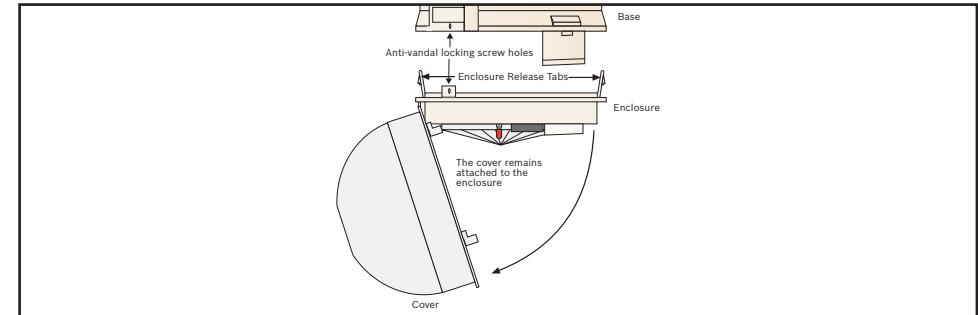

Figure 2.1: Opening cover
1. Remove the base from the enclosure by pressing the two enclosure release tabs inward while lifting the enclosure away from the base. Refer to *Figure 2.1*.
2. Open the cover by turning counterclockwise. One side of the cover will remain attached to the base of the detector. Do not attempt to entirely remove the cover. Refer to *Figure 2.1*.